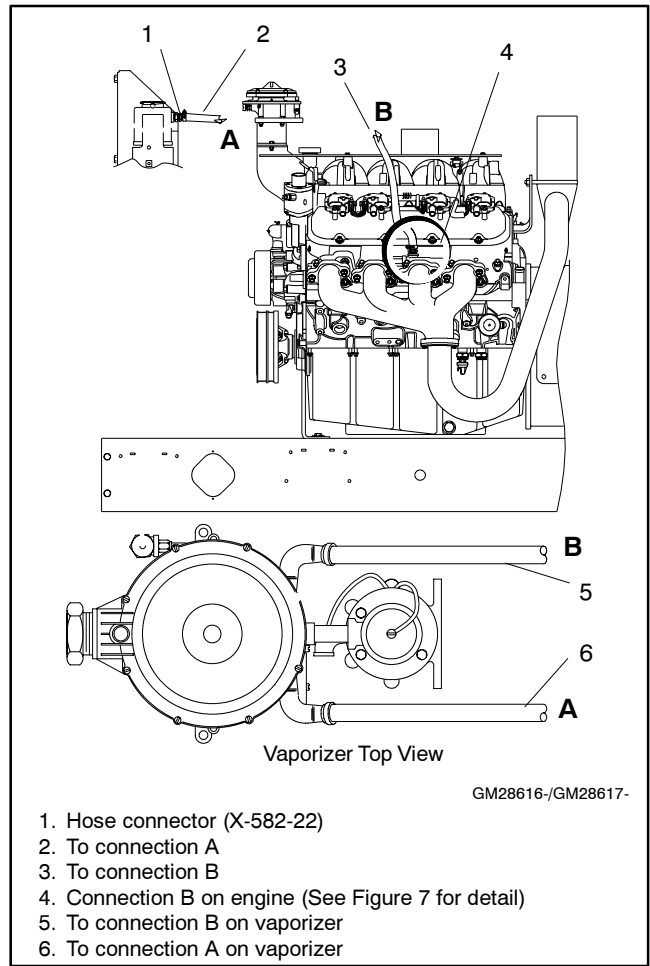
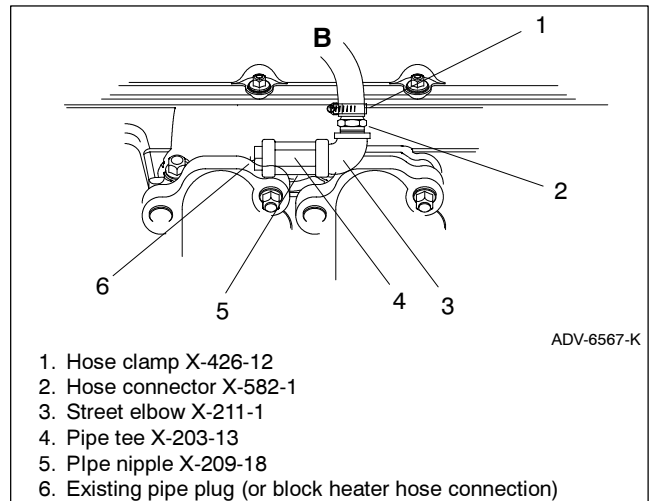

Figure 6 Vaporizer Water Line Connections (80/100 kW models with GM engines)
Figure 7 Engine detail for Connection B (80/100 kW models with GM engines)
- 5.1 Remove the pipe plug from the radiator at location A. See Figure 6.
- 5.3 Remove pipe plug from engine at location B or if equipped with a block heater, loosen hose clamp and remove block heater hose and hose connector. See Figure 6 and Figure 7.
- 5.5 Apply pipe sealant to the other end of the pipe nipple and install pipe tee (X-203-13) using the center opening. Position the pipe tee as shown in Figure 7.
- 5.6 Apply pipe sealant to the male threads of the street elbow (X-211-1) and install in the pipe tee. Position the female thread opening of the street elbow upward. See Figure 7.
- 6.4 Apply pipe sealant to the existing pipe plug or if equipped with a block heater, apply pipe sealant to the existing hose connector. Install in pipe tee opening nearest to the radiator. See Figure 7.